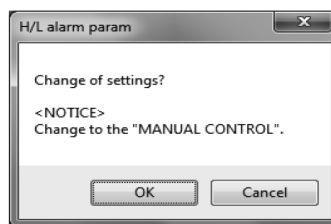

Fig.65
- ⑤ After all settings are complete, click the "OK" button to display a message box (Fig. 65). Click "OK" here to change the settings to the inputted values, and to reflect the changed setting values in the flowmeter's output. For the sake of safety, if the flowmeter's output is used to control valves or other such parts, then change that control loop to manual control so that the control loop is not influenced by the flowmeter's output.